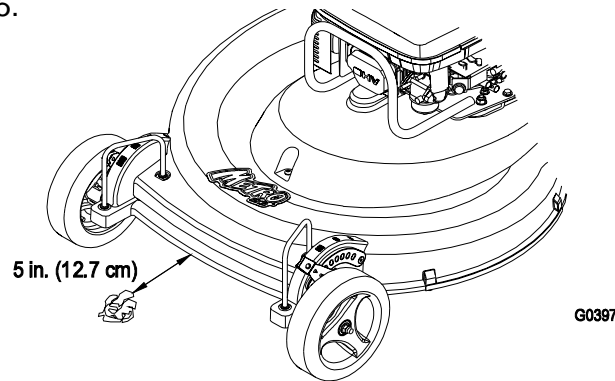

FIGURE 5
- e) Take a half sheet of newspaper and crumple it into ball small enough to go under the deck (about three inches or 76 mm in diameter) as shown in Figure 5.
- f) Place the ball of newspaper five inches (12.7 cm) in front of the lawn mower (Figure 5).